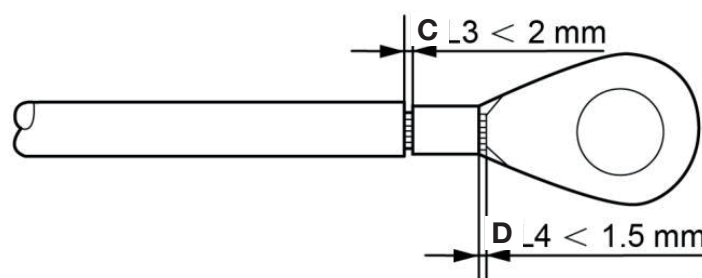

Figure 5.8 Strip wire
- Insert the stripped wire into the OT terminal crimping area and use the hydraulic clamp to crimp the terminal to the wire (see Figure 5.8).